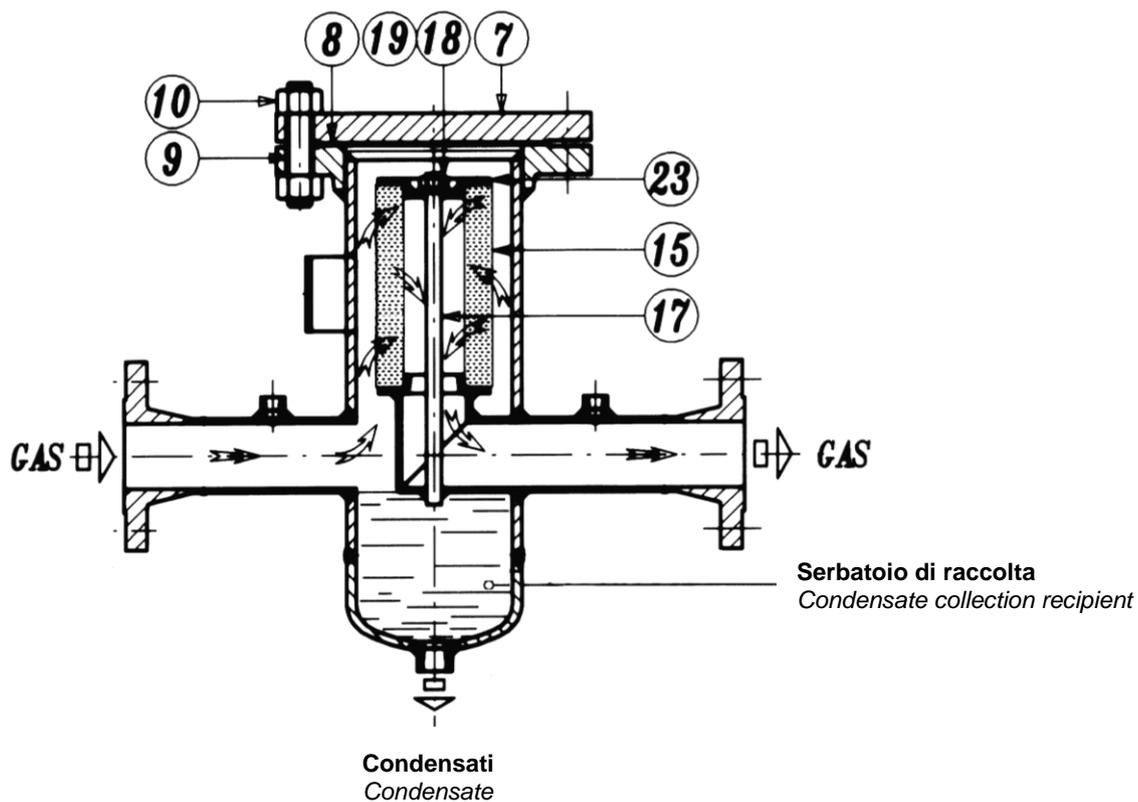

Fig. 2
1.3 CLOSING OF HEAD WITH FLANGE (FIG. 2)